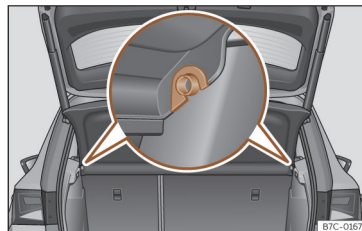

Fig. 106 In the luggage compartment: removing and fitting the shelf.
- Remove the rear shelf from the side supports»» Fig. 106 by pulling it upwards and then take it out.
- Insert the cover horizontally so that the “recess” fits onto the axis of the supports »» Fig. 106 and press down until it engages.